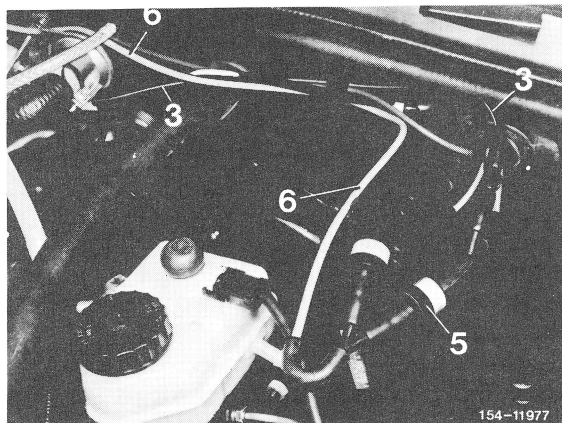

Fig. 2
2. Check vacuum line (6, Figure 2) from the engine to the check valve (5) as well as vacuum line (3) from the check valve (5) to the throttle actuator for correct and tight connection.